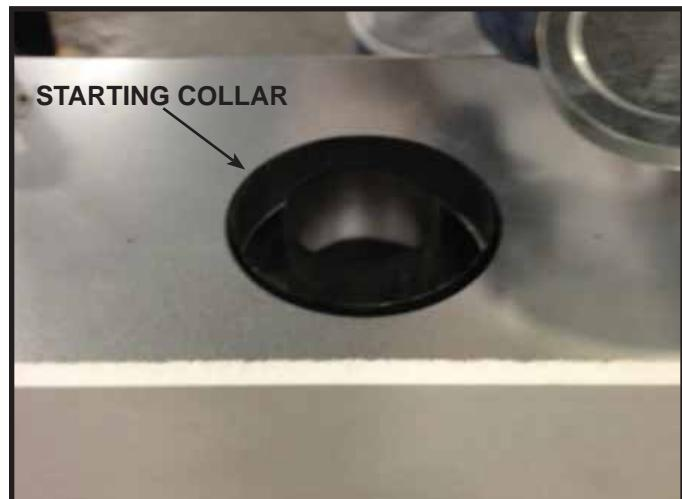

Figure 9.4 Starting Collar
3. Secure the first section of venting to the firebox by attaching to the starting collar with screws. See Figure 9.4.